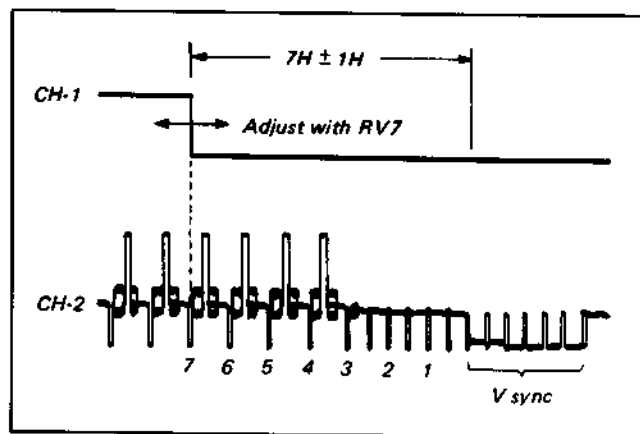

Fig. 4-9. RF switching position adjustment (1)
- (4) Connect CH-1 of the oscilloscope to TP1 (Pin 4 of IC003) on the SS-9 board and CH-2 to VIDEO OUT jack (CNJ 2) on the YC-23 board.
- (5) Adjust RV7 on the SS-9 board so that the time interval between the decay of CH-1's waveform and the vertical sync signal of CH-2's video signal become  $7H \pm 1H$  lines (see Fig. 4-9).